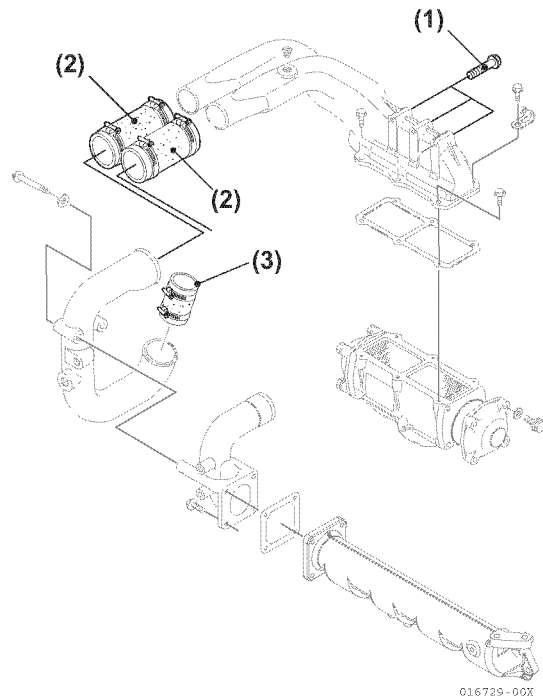

Figure 7-20
6. Loosen bolts (Figure 7-20, (1)).
7. Remove rubber hose between air duct of intercooler and bend of intake manifold (Figure 7-20, (2)).
8. Remove rubber hose between air duct of intercooler and air duct of turbocharger (Figure 7-20, (3)).